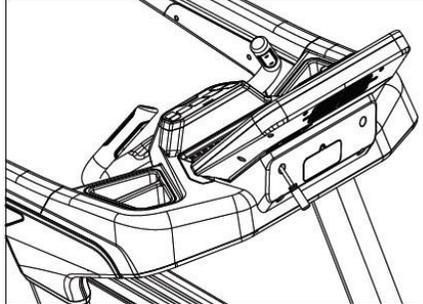

Figure 4.1.1
- 4) As shown in Figure 4.1.1, use screwdriver to remove LED chin cover.